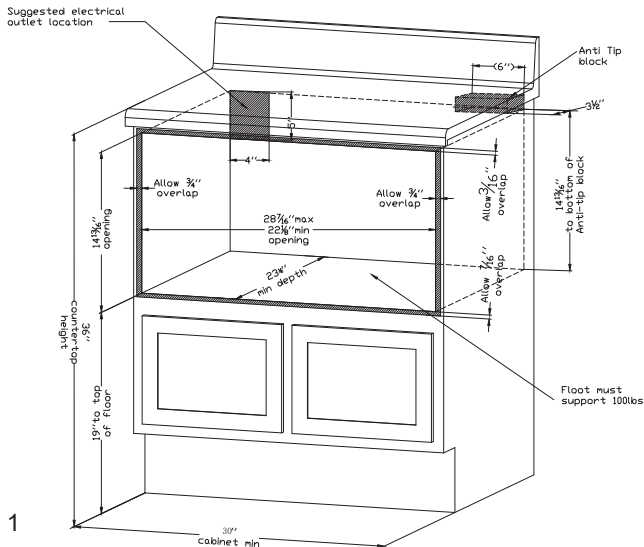

Figure 1
• Dimensions that are shown in Figure 1 must be used. Given dimensions provide minimum clearance. Locate electrical outlet in the shaded area in the upper left-hand corner of the cutout.
Figures 1 and 2 contain many Microwave Drawer measurements for reference when planning the drawer's location. This Microwave Drawer can be installed below any electric or gas wall oven. *Can also be installed using an electrical outlet in an adjacent cabinet within the area where tire provided electrical cord can reach. Power cord access hole in cabinet should be a minimum 1 1/2" diameter hole and debarred of all sharp edges.
To reduce the risk of tipping of the drawer, the Anti-Tip block must be properly installed located 14 inches above the floor on which the Microwave Drawer will sit. The 6-inch Anti-Tip block must be provided by the installer. See Figures 1 and 3. The Anti-Tip block prevents serious injury that might result from spilled hot liquids. If the Microwave Drawer is ever moved to a different location, the Anti-Tip block must also be moved and installed. When installed to the wall make sure that the screws completely penetrate the dry wall and are secured in wood or metal so that the block is totally stable. When fastening, be sure that the screws do not penetrate electrical wiring or plumbing. The electrical requirements are a 120 volt 60 Hz, AC only, 15 amp. or more protected electrical supply. It is recommended that a separate circuit serving only this appliance be provided. The drawer is equipped with a 3-prong grounding plug. It must be plugged into a wall receptacle that is properly installed and grounded. Should you only have 2-prong outlet, have a qualified electrician install a correct wall receptacle.